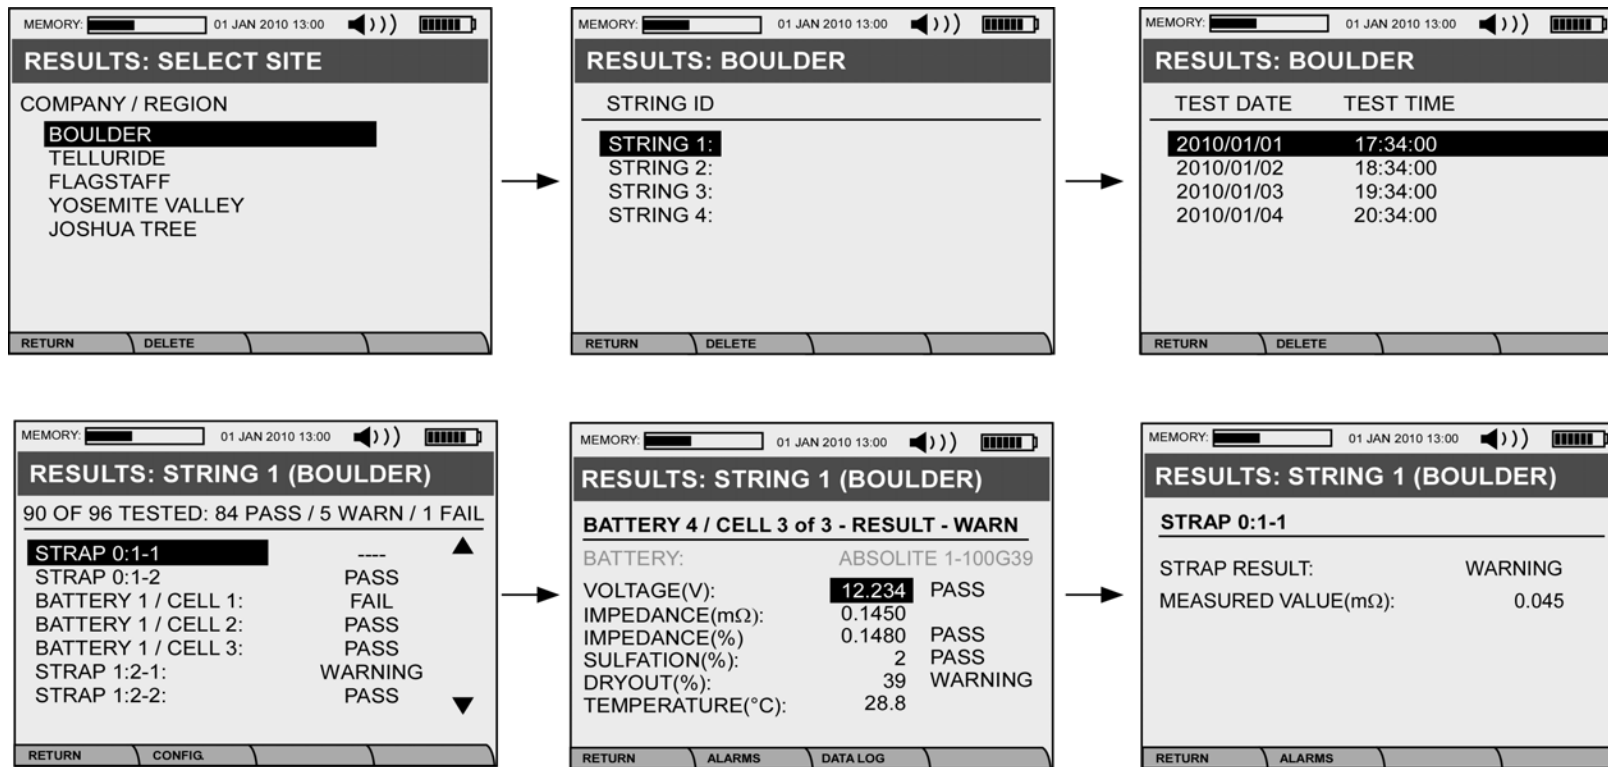

Figure 3.1. Various user screens for navigating TEST RESULTS Menu.
- (1) Test results may be deleted.
- (2) Limited battery and site-specific information may be entered and/or modified.
- (3) Test Configurations and the settings associated with them may be viewed.
The following six (6) screens shown in **Figure 3.1**, illustrate the navigation for reviewing test data.